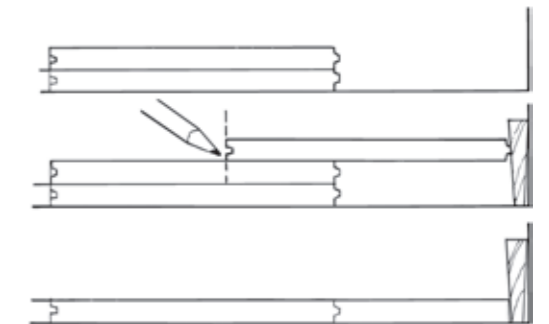

Fig 11 Fitting the last panel
- To trim the last panel to size, lay it exactly on top of the second last panel, then lay a third panel on top, butted up against the spacer wedge (see Fig 11). Using the edge of this top panel as a guide, mark a line on the last panel indicating where to cut away the excess.